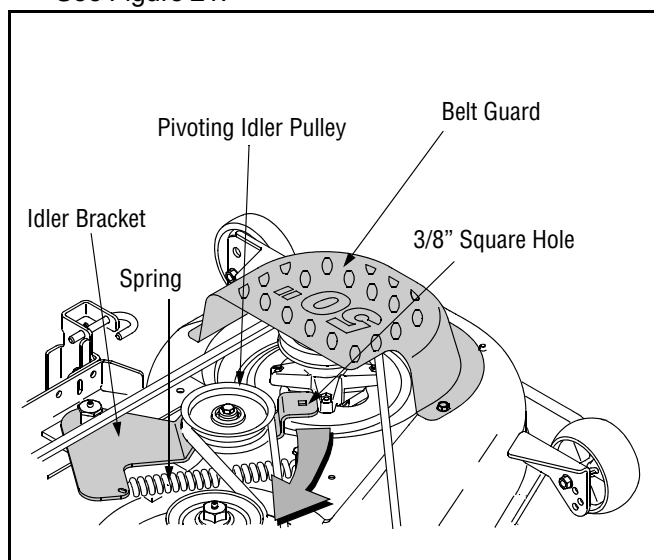

Figure 21
- To ease in removing the belt on Model GT2200, loosen, but do not remove, the bolt which secures the pivoting idler pulley to the idler bracket. See Figure 21.